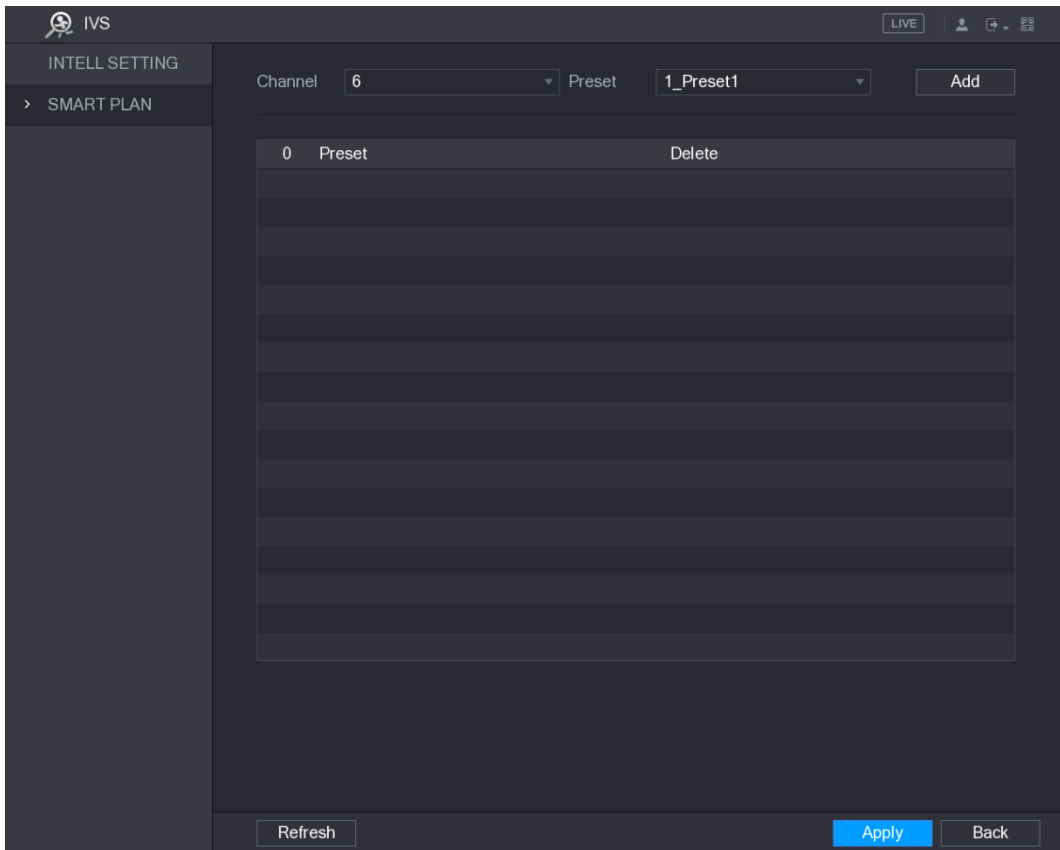

Figure 5-149
- For the IP camera with preset, see Figure 5-149.